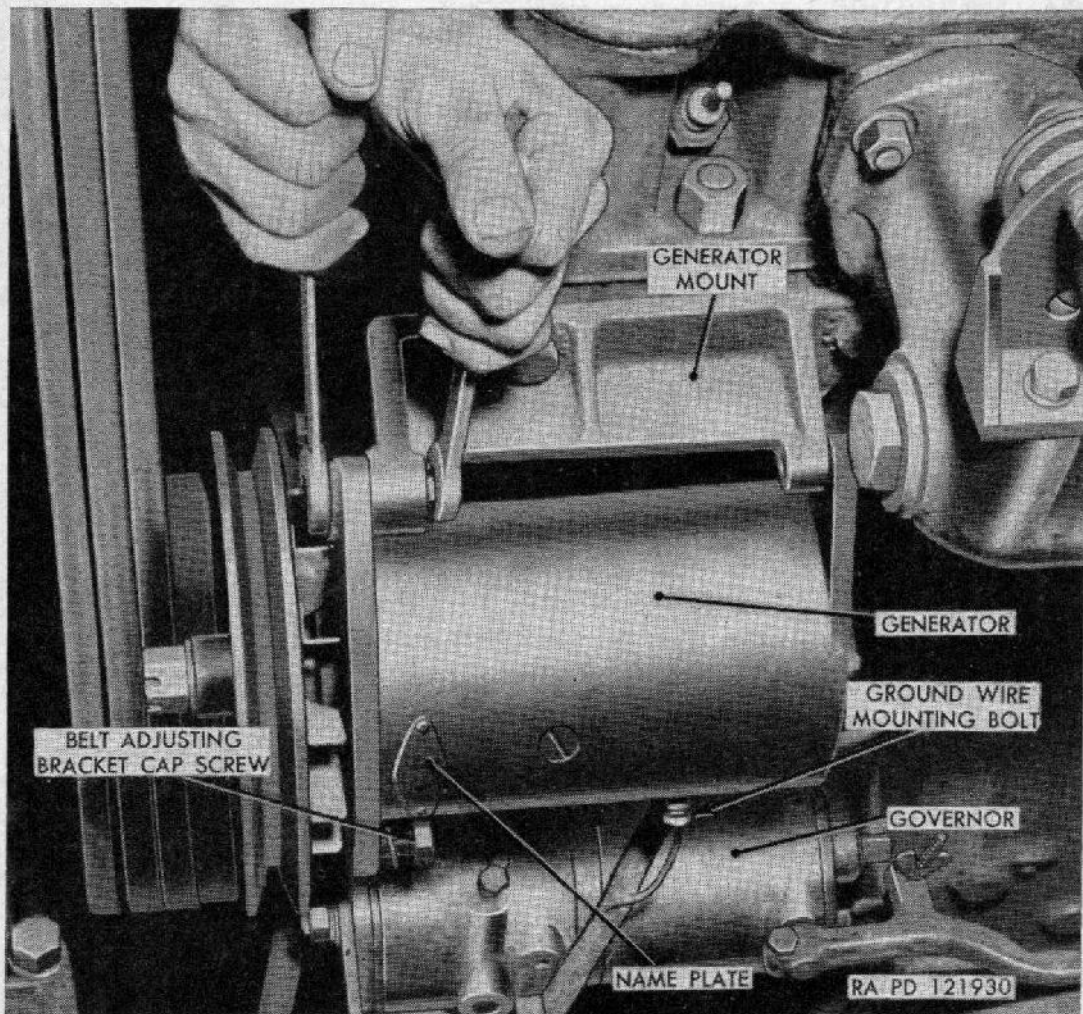

Figure 83. Generator removal.
b. Removal. Open engine compartment door on right side of tractor. Remove cap screw from slotted belt adjusting bracket (fig. 83) and remove belt from generator drive pulley. Remove nuts from "A" and "F" generator terminals (figs. 44 and 84) and remove wires from terminals. Install washers and nuts on terminals to prevent loss of washers. Remove the two bolts from generator and its support bracket (fig. 83) and lift out generator.
c. Installation. Install generator on support bracket with two bolts (fig. 83), placing belt on drive pulley and adjusting for $\frac{3}{4}$ -inch deflection before tightening bolts (par. 99c). Connect wire leading from center terminal on regulator to "F" terminal on generator.